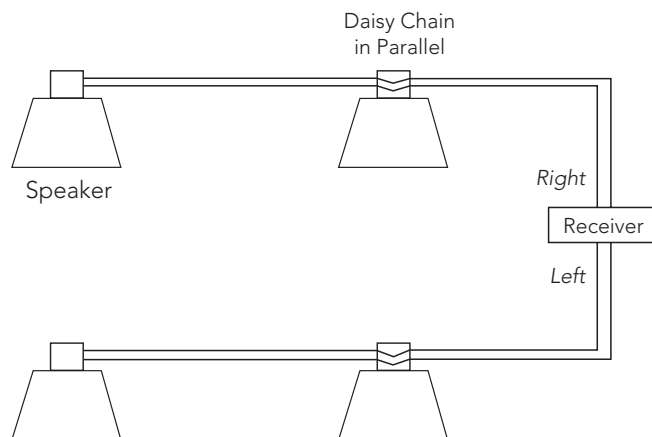

Figure 1: Speaker Connections
- a. **MINIMIZE** speaker wiring and save time by daisy-chaining in parallel left and right speakers (figure 1). Running individual speaker wire from each speaker to the terminal block on the receiver is not required.